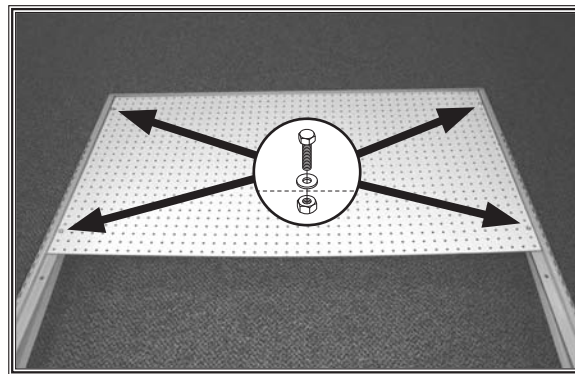

Figure 14. Top pegboard sheet attached to frame.
5. Use four M6-1 X 12 hex bolts, 6mm flat washers, and M6-1 hex nuts to secure the pegboard into place (see **Figure 14**). Adjust the legs as needed to align the bolt holes in the pegboard with those in the legs.